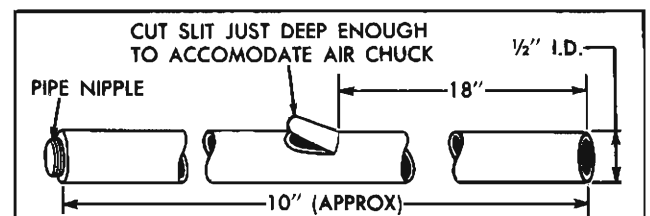

Fig. 8-6 Typical Drain Hose
1. Insert a length of hose (Fig. 8-6 for details) into the gas tank, pipe nipple end first, until weighted end of hose rests on bottom of tank.